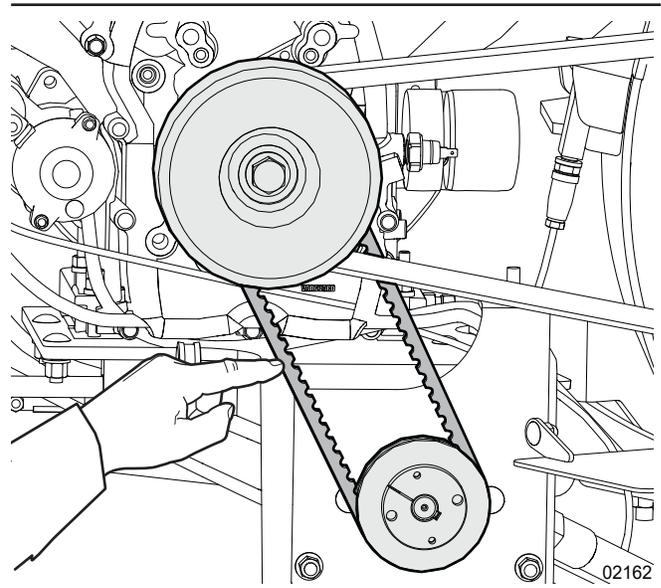

Figure 54—Check the hydraulic pump drive belt tension
1. Press on the side of the hydraulic pump drive belt and measure the distance it moves. See *Figure 54*.